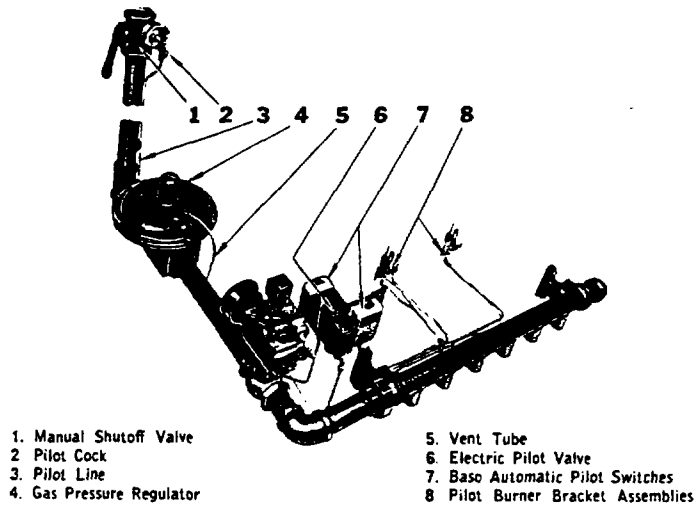

FIG. 21—Control Connections
1. Connect pilot line from manual shutoff valve assembly, see Fig. 15, to electric pilot valve. Then connect pilot line from electric pilot valve to pilot burners. Attach bracket containing electric pilot valve and BASO 850 switches to burner access door frame with one 10-24 x $\frac{1}{2}$ screw and one $\frac{3}{4}$ -16 x 1" brass hex head cap screw which holds burner access door frame in place. See Fig. 21.